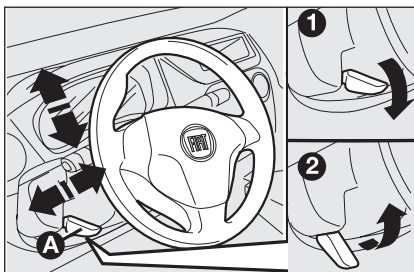

fig. 28
- ☐ release the lever **A**-fig. 28 pushing it forwards (position 1);